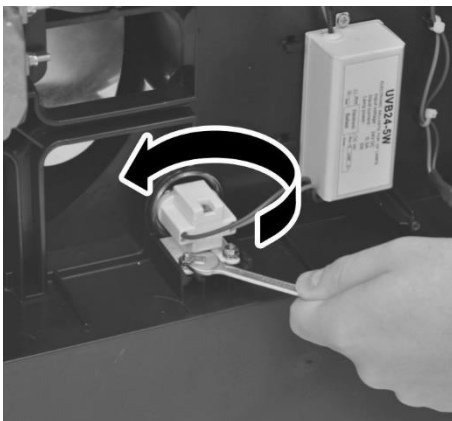

Fig. 33: Loosen the nuts on the bulb holder
3. ➤ Loosen the lampholder nuts with a 7 mm spanner (Fig. 33).